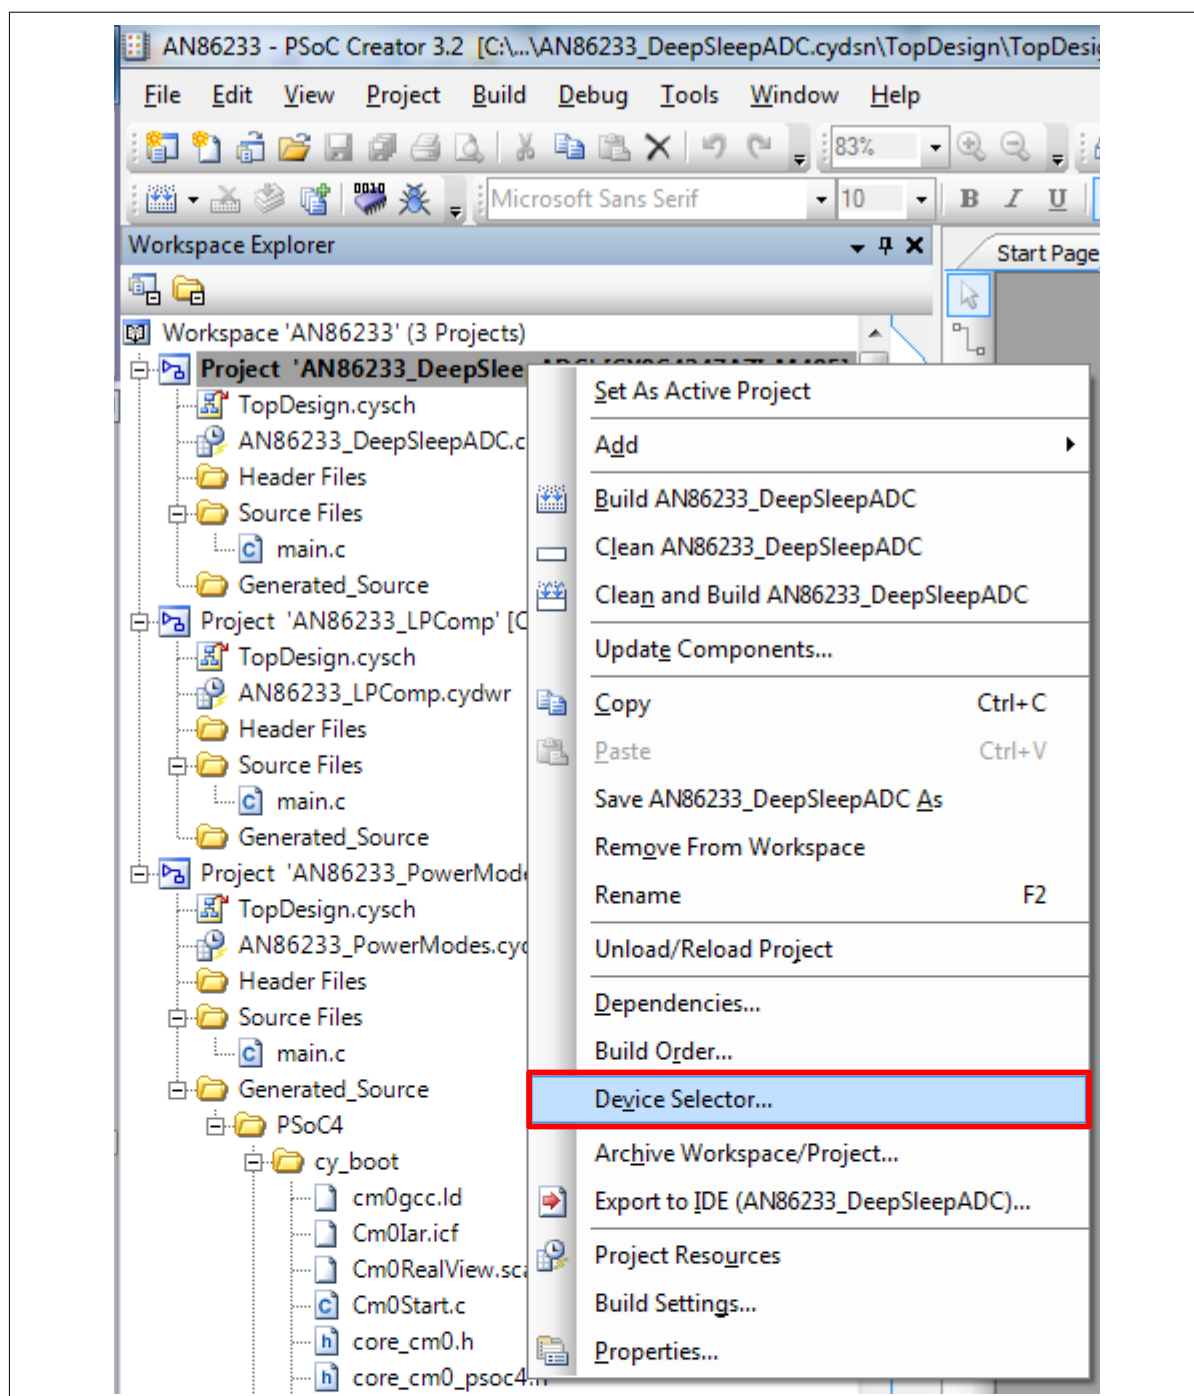

Figure 11 Select the device selector option
2. Select the option **Device selector** from the context menu, as Figure 11 shows